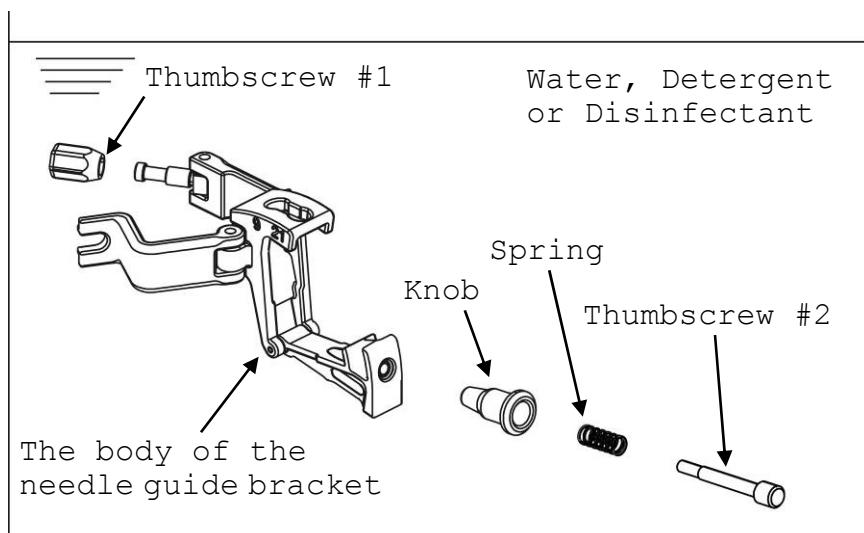

Fig. 25 Immersion of the Needle Guide Bracket
WARNINGS	<ul style="list-style-type: none">➤ EZU-PA7C2 is delivered unsterile. Prior to the first use, reprocess it.➤ The cavities and the spiral spring of the EZU-PA7C2 require particular attentions during all processes. The needle guide bracket must be manually pre-cleaned using ultrasound prior manual reprocessing as well as automated reprocessing and must be dismantled into single parts (shown in Fig. 25).
- 2) Separate the needle guide bracket to thumbscrew #1, thumbscrew #2, spring, knob, and the body of the needle guide bracket (see Fig. 25).
- 7) Rinse all parts of the needle guide bracket with running tap water for 1 minute. (alternatively: immerse them in a tray filled with deionized water/tap water (see Fig. 25) for 5 min.)
- 2) Immerse all parts of the needle guide bracket into the disinfectant (see Fig. 25). Rinse the cavity of the needle guide bracket with 50 ml disinfectant solution. Repeat this 4 times. Set a clock to insure the recommended contact time which is 5 minutes.
- 3) Rinse all parts of the needle guide bracket with deionized water for 1 minute. (alternatively: immerse them in a tray filled with deionized water (see Fig. 25) for 5 min.)